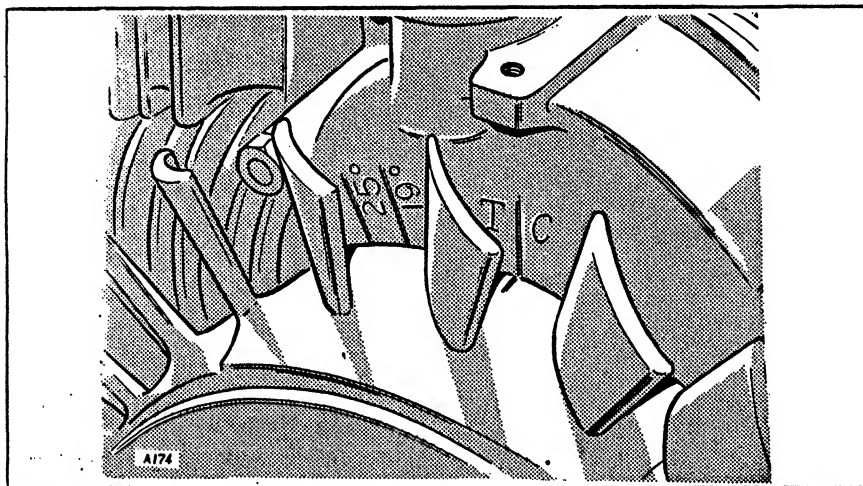

FIG.43- TIMING MARK ALIGNMENT
2. Crank the engine over slowly by hand in the direction of crankshaft rotation until the "TC" mark on the flywheel and the mark on the gear cover are exactly in line. See Fig. 43.